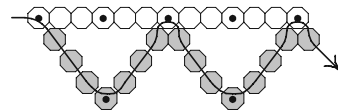

Fig. 7
1. Pick up seven beads (increased from five on the previous growth row) for the swag and, skipping the next connector bead, bring the needle through the second connector bead (Fig. 7).